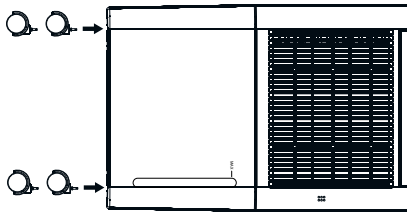

Fig. 1
- ◆ Press the castors **6** into the four holes on the bottom of the appliance until they fully click into place (see fig. 1).